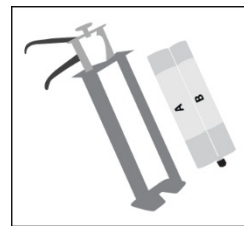
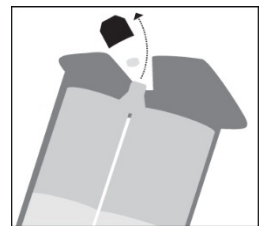
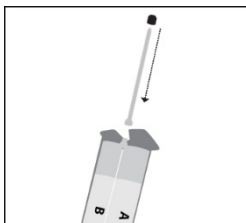

Figure 4: Install sealer cartridges
Figure 5: Remove nose plug with gun upright
Figure 6: Attach nozzle and secure with black
4. Remove the contents of the sealer kit from the shipping carton. Install the sealer cartridges into the sealer gun. *See Figure 4.* Point the gun upwards (nose up), and remove the nose plug. *See Figure 5.* With the gun still pointing upwards, mount the mixing nozzle and ensure that it is properly secured to the sealer cartridge. *See Figure 6.* Point the gun downward and squeeze the handle gently until the sealer is approximately 2 ins. from the tip of the mixing nozzle. If circumstances do not permit the mixed sealer to be used within 10 minutes remove the mixing nozzle and insert a new nose plug.